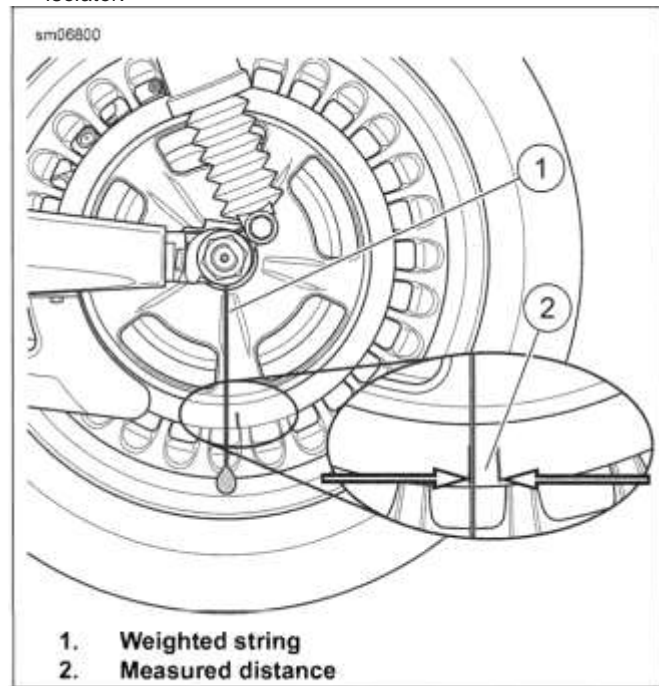

Figure 2-39. Check Compensator Wear
3. See Figure 2-39. Hang a weighted string (1) on the left axle spacer as close as possible to, but not touching, the rear sprocket.